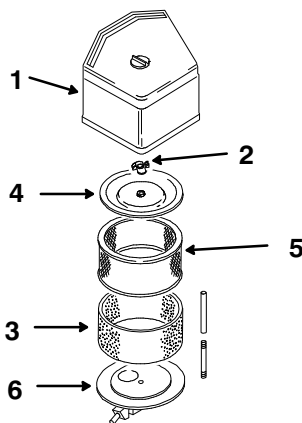

Figure 23
2. Clean around the air cleaner to prevent dirt from getting into the engine and causing damage. Unscrew the cover nut and remove the air cleaner cover (Fig. 23).
3. Remove the air cleaner assembly (Fig. 23).
4. Carefully slide the foam element off the paper element (Fig. 23).
1. Carefully slide the foam element onto the paper air cleaner element (Fig. 23).
2. Place the air cleaner assembly onto the air cleaner base (Fig. 23).
3. Install the air cleaner cover and secure with cover nuts (Fig. 23).